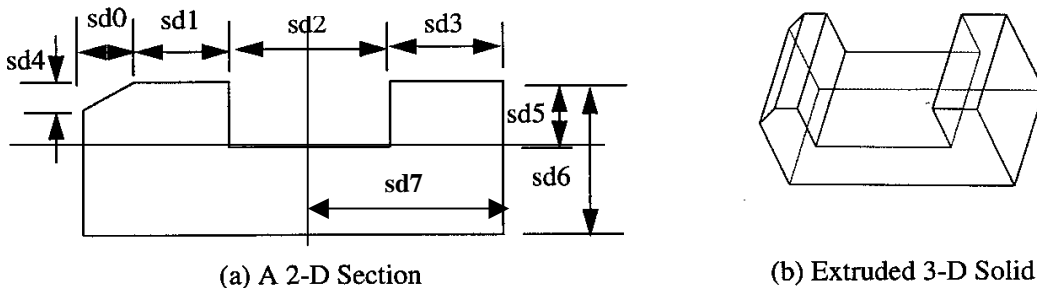

Figure 2 Creation of the Main Shape (or Major Feature)
You will see a dialogue box of the types of Pro/E files you can create (see Figure 2). You will be creating the default file type, **Part**.
(3) Sketching the 2D section of the part for extrusion in plane FRONT
*In **Sketcher Menus** (shortcut buttons) that have appeared at the right of the screen, choose **Create lines** and left click it, draw the 2-D section of the part as shown in Figure 2 (a). The profile of the section is drawn by moving the cursor to the desired screen location and clicking left button of the mouse. The line is ended by clicking middle mouse button (or shift + middle mouse button). Profile of the section is enough at this stage and the dimensions do not need to be accurate.*
(4) Dimensioning the generated 2-D section
*In **Sketcher Menus**, choose **Create defining dimension** and left click it, specify dimensions of sd0 to sd7, as illustrated in Figure 2(a). Redundant dimension definition that will be highlighted may happen and if that, delete the unexpected dimensions. A dimension is defined by selecting the two points (or two lines) at the geometric entities to be dimensioned using the left mouse button, and clicking the location of the dimension value using the middle mouse button.*
(5) Modifying the dimensions to the desired values
One can view the geometry in three ways. The first is to use the main menu Utilities → Environment, ENVIRONMENT → Display Style. The second is to use the desktop icons to toggle different view options. The last approach, which is used the most, is by press the Ctrl button on the keyboard, and meanwhile press the left mouse button to zoom in/out, the middle button to rotate, and the right button to move. The created the solid model is shown in Figure 2 (b).